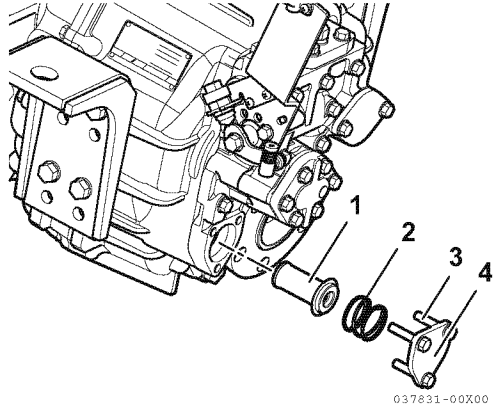

Figure 2
4. Remove three M8 x 40 bolts (3, **Figure 2**) and washers.
5. Remove the cover (4, **Figure 2**), seal, spring (2, **Figure 2**) and oil strainer (1, **Figure 2**).
*Note: The oil strainer (1, **Figure 2**), must be washed with clean oil whenever the oil is changed.*